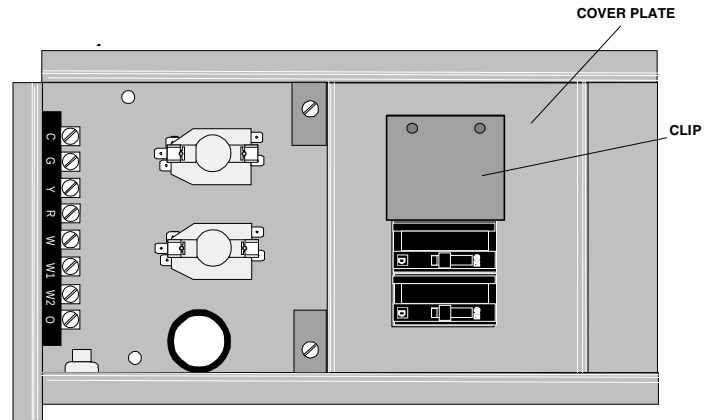

Figure 1
2. Remove cover plate and clip on the Heater Control Assembly (Figure 1).